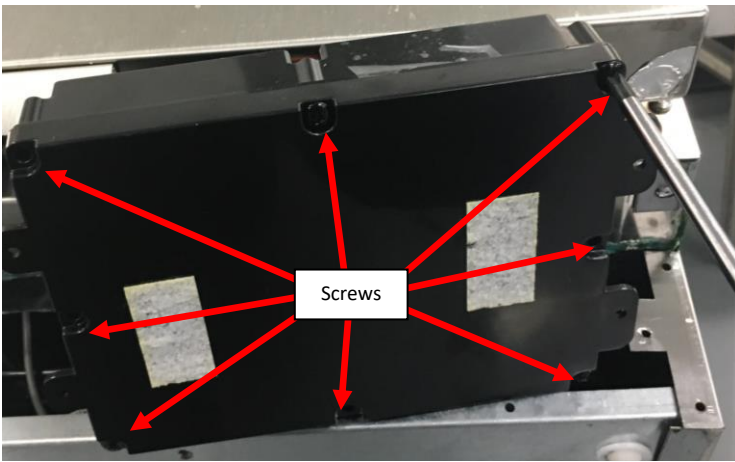
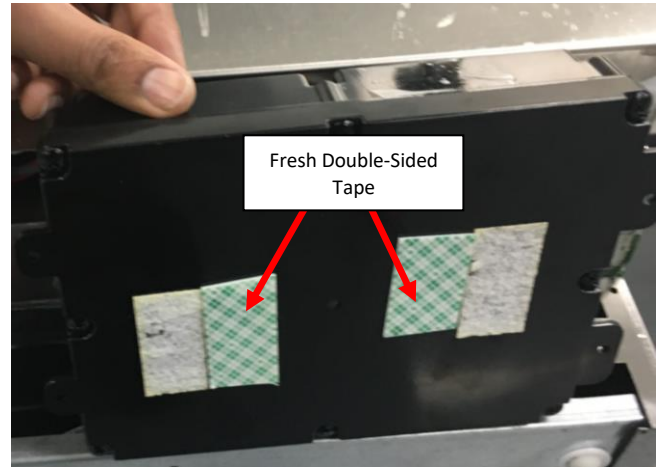

Figure K7: Controller Board Enclosure screwed together.
Figure K8: Controller Board Enclosure with fresh double-sided tape.
9. Screw the fasteners back in. **See Figure K7.** Apply fresh double-sided tape on the bottom of the Controller Board Enclosure and remove the old tape. **See Figure K8.**